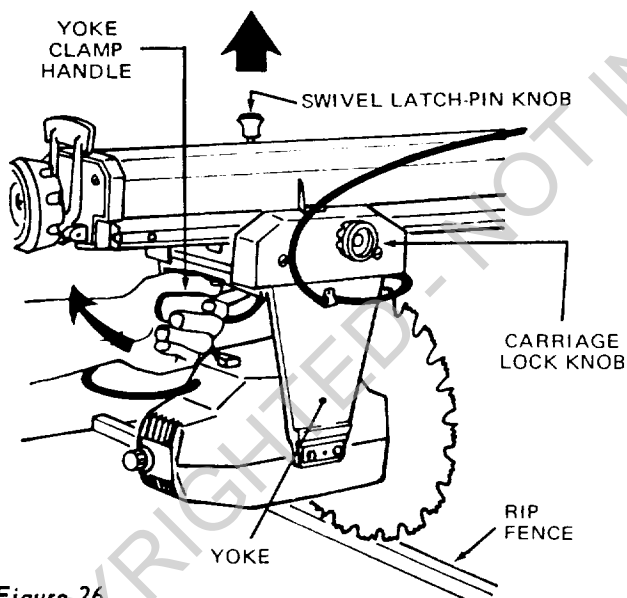

Figure 26
7. Adjusting the Rip-Scale Indicators (Figures 26 – 29)